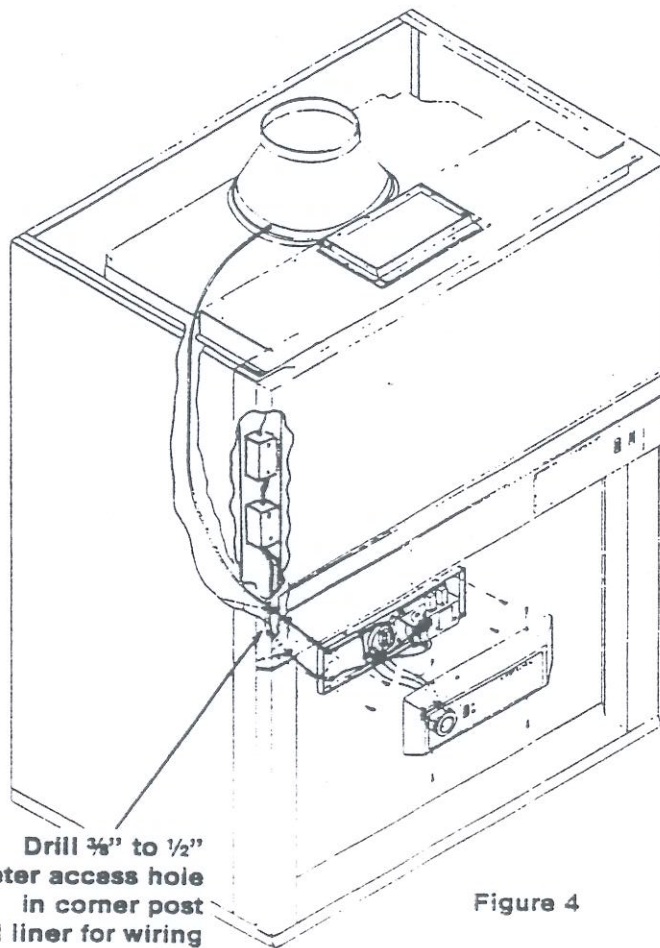

Figure 4
5. Drill a $\frac{3}{8}$ " to $\frac{1}{2}$ " diameter hole through the fiberglass liner and corner post for the vinyl tubing access (refer to Figure 4). Run the tubing across the top of the hood liner, over and down the side of the hood and through the entrance hole in the liner and corner post to the header panel. If you are installing the monitor #49400-01, on a Protector-96 Laboratory Hood, you will need to insert two pressure probe assemblies—one into each of the hood exhaust collars. A tee has been supplied to connect both sections of vinyl tubing into one combined run leading to the pressure sensor in the monitor housing assembly.